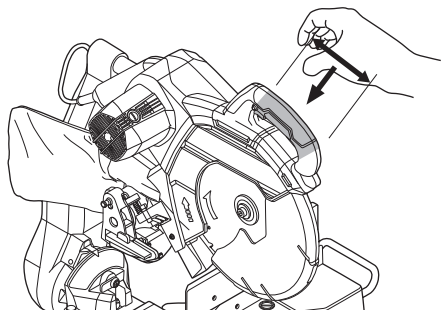

Fig. 1
1. Make sure to securely hold the tool during operation. Failure to do so can result in accidents or injuries. (Fig. 1)